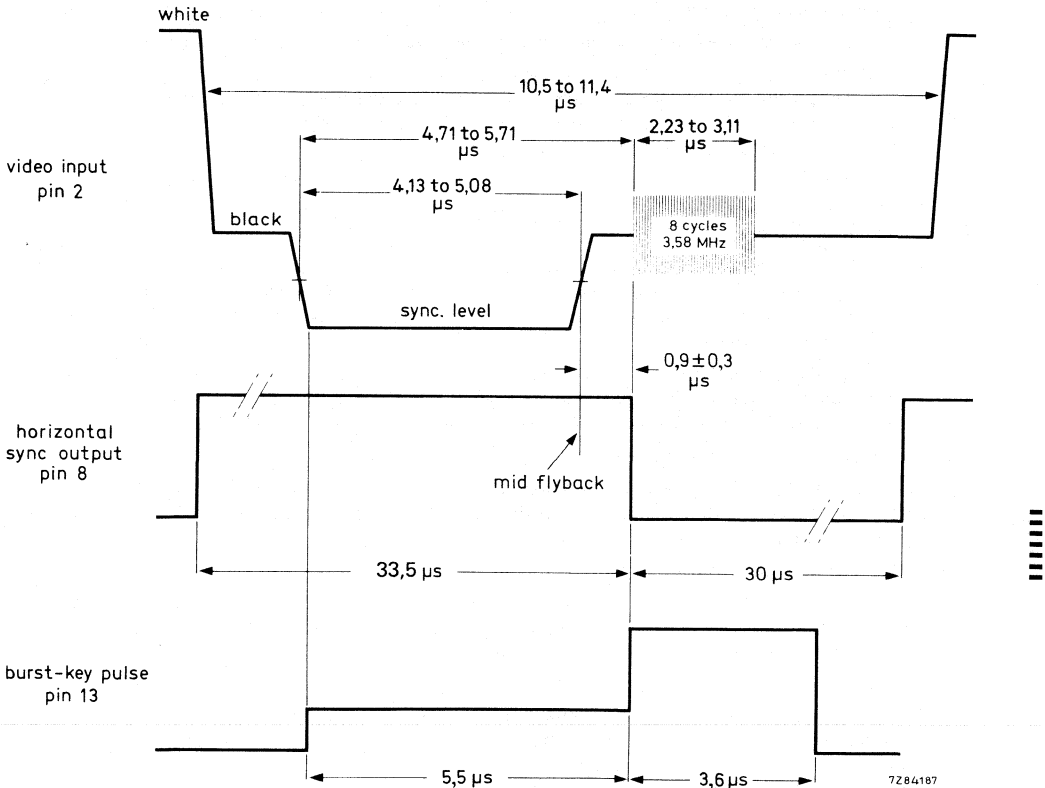

Fig. 2 Relationship between the video input signal to the TDA2575A and the horizontal sync and burst-key pulse output.
** See waveforms Fig. 2.
This pulse is composed of two parts. The lower part has an amplitude of 3 V peak-to-peak and a width of 9,1 μs (for phase relation see Fig. 2). The upper part has a total amplitude in excess of 10 V peak-to-peak and a width of 3,6 μs . The leading edge of this pulse has a delay of 0,9 μs with respect to the falling edge of the sync pulse at the input (pin 2).